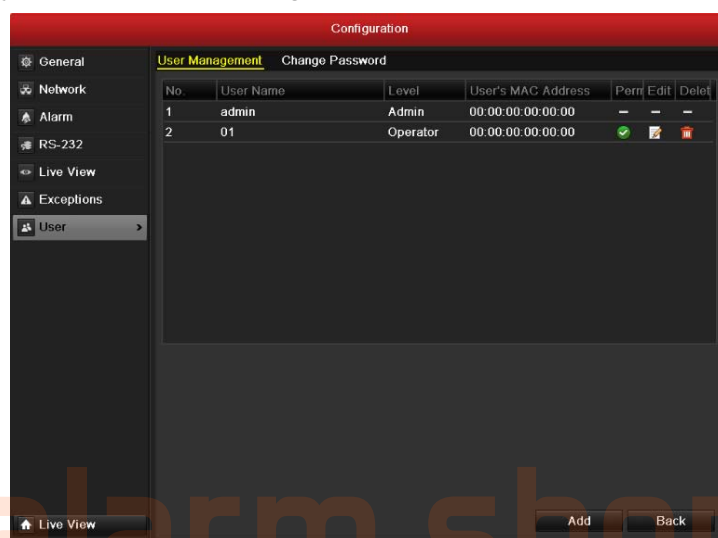

Figure 13.6 Added User Listed in User Management Interface
4. Click the **OK** button to save the settings and go back to the User Management interface. The added new user will be displayed on the list, as shown in Figure 13.6.